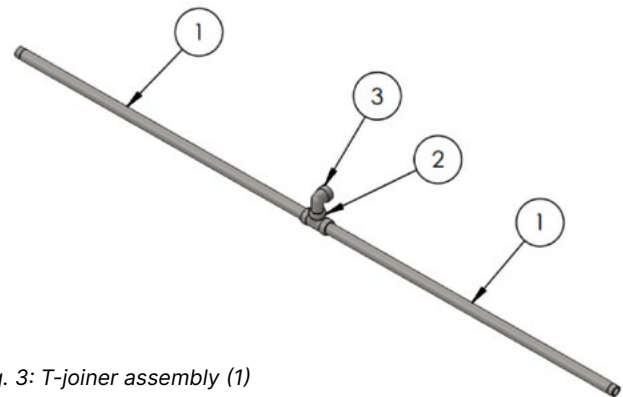

Fig. 3: T-jointer assembly (1)
- T-jointer assembly (1) (Fig. 3)